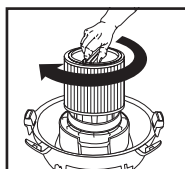

FIGURE 11
17. Hold the tank cover with one hand, turn the handle on the filter retainer clockwise to tighten, locking the filter into place. **FIGURE 11.**